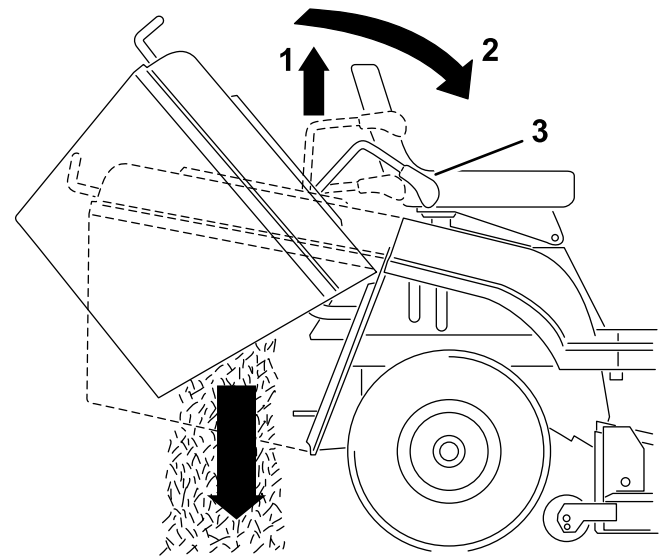

Figure 18
2. Pull out the telescoping dump lever and push it forward and down to tilt the grass collector (Figure 18).